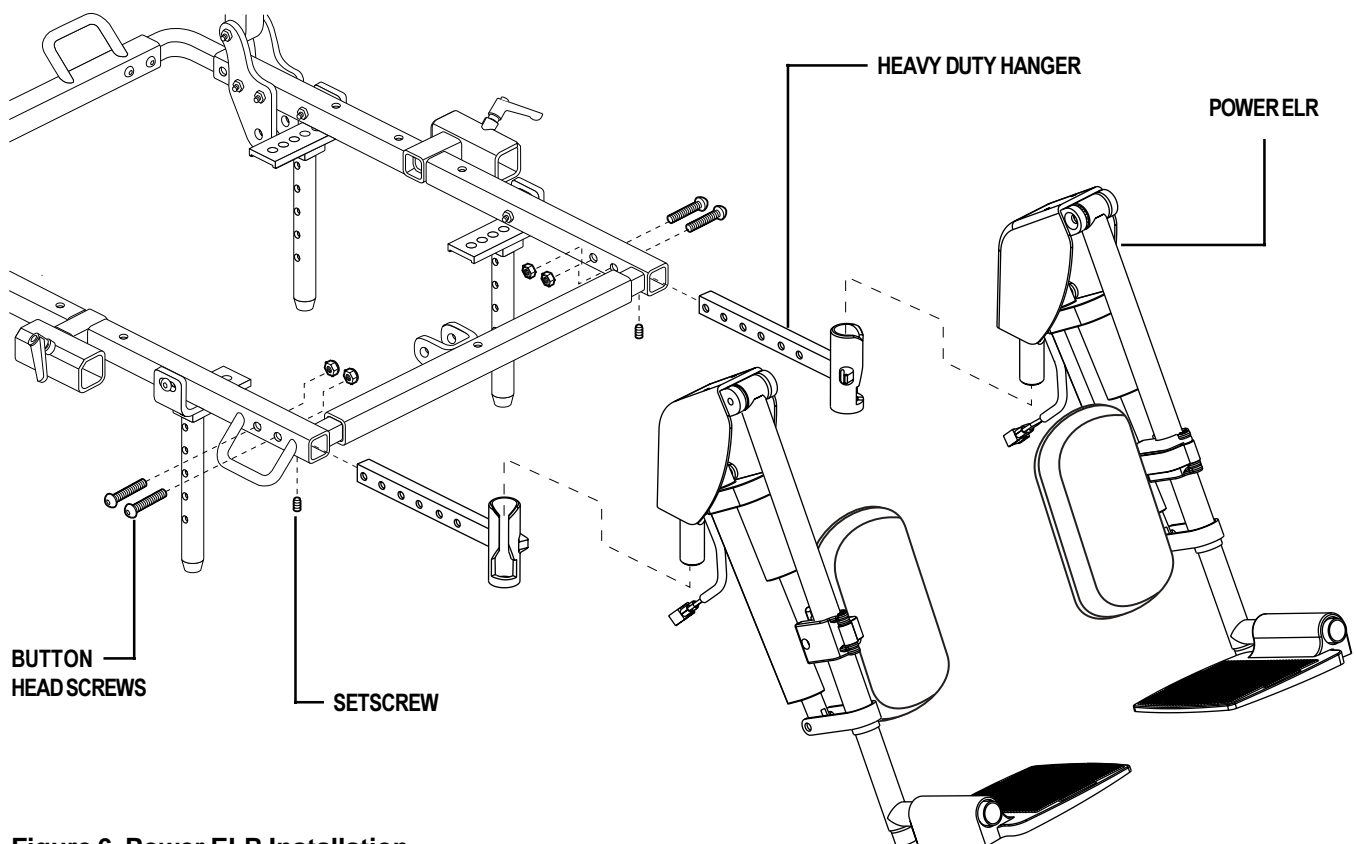

Figure 6. Power ELR Installation
- 5/16-in. x 1 1/2-in. button head screw (4)
- 5/16-in. Nylock nut (4)
1. Loosen the setscrew located underneath the side rail weldment on either side of the chair using the 1/8-in. hex key. See figure 6.
3. Install the four (4) button head screws and four (4) Nylock nuts that secure the hangers to the side rail weldments using the 3/16-in. hex key and 1/2-in. open-end wrench.